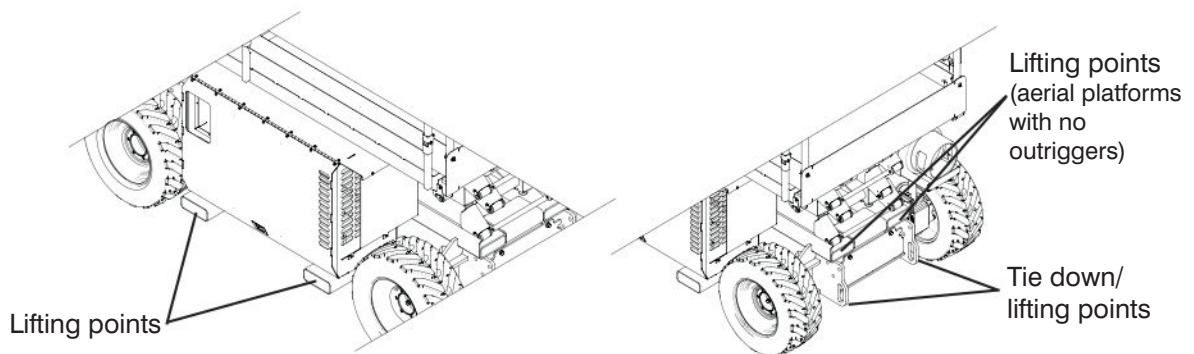

Figure 2-14. Tie Downs/Lifting Points
- The lifting/rigging may be attached to all twelve lifting points as illustrated in Figure 2-14.
When transporting, the aerial platform must be secured to the truck or trailer deck. Tie downs are available as illustrated in Figure 2-14.